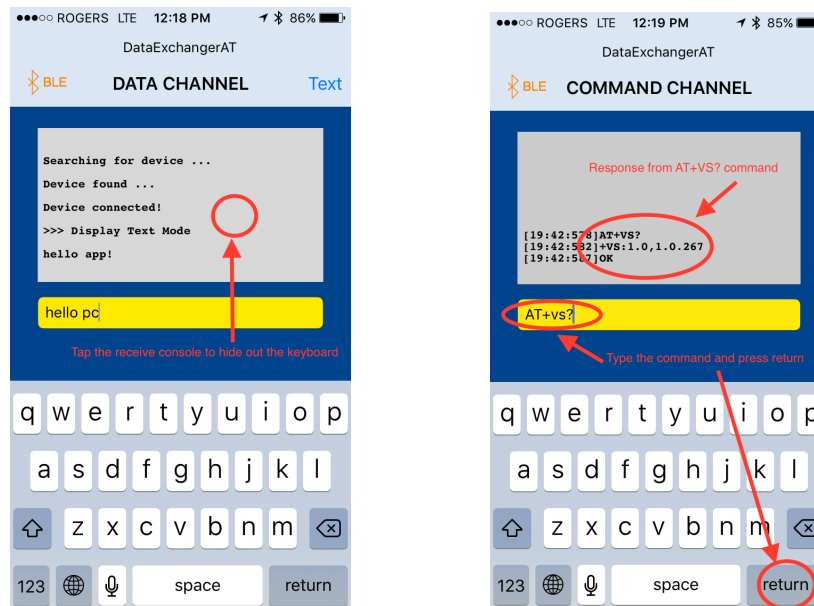

Figure 3
5. See Figure 3 for the screen shots.